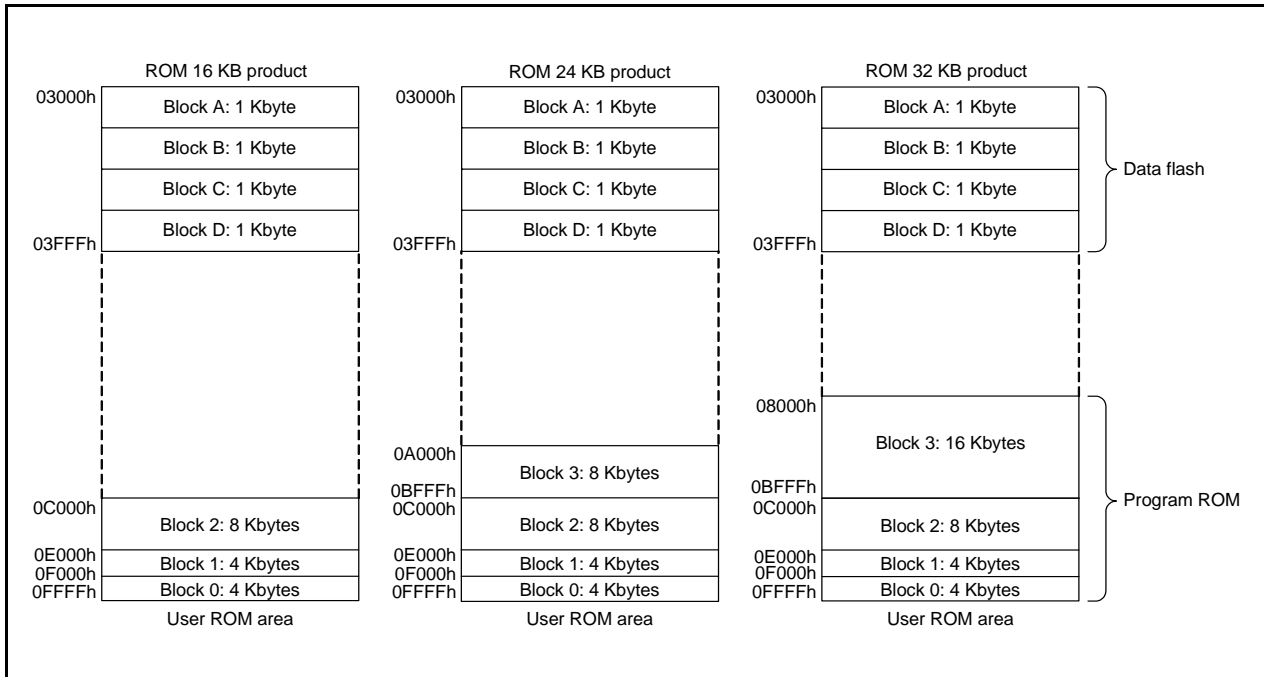

Figure 25.1 R8C/33T Group Flash Memory Block Diagram
- The number of blocks and block division vary with the MCU. Refer to **Figure 25.1 R8C/33T Group Flash Memory Block Diagram** for details.
Figure 25.1 shows the R8C/33T Group Flash Memory Block Diagram.